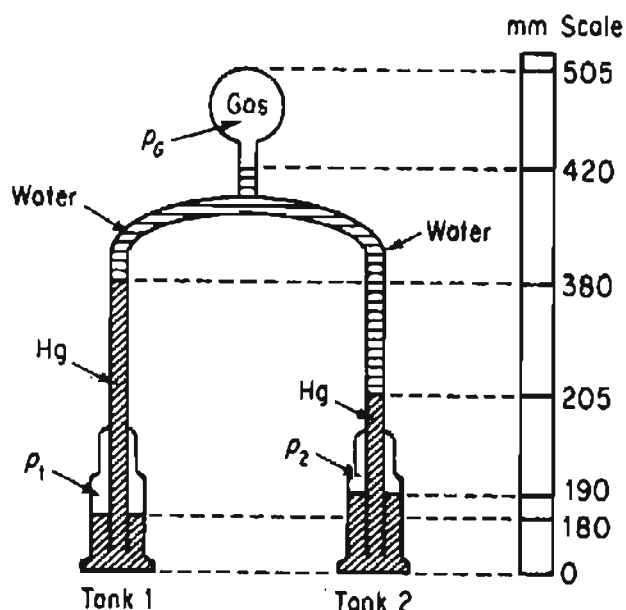

Figure P5.29
- *5.29 Pressure in a gas cell is measured with an inverted manometer, as shown in Figure P5.29. The scale on the far right-hand side of the figure shows the distances in mm (not to scale) of the interfaces of the liquids in the manometer. What is the pressure in the cell? $p_1 = 12.50$ psia.